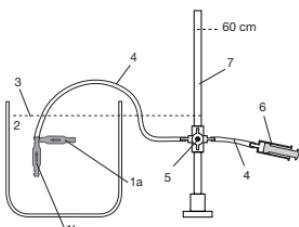

Fig. 7: Test setup
- Position the manometer and the water bath in such a way that the zero point of the manometer and the fluid level of the water bath are at the same height (see fig. 7).
- c) Connect the syringe, the manometer and the silicone tube with each other. Use the tube adapter if necessary. (see fig. 7)